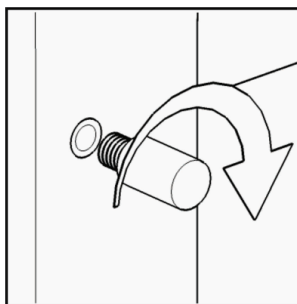

Figure 6
Insert Adjustable Pins into the side frames at the desired level and place Shelf (H) into position. (see Figure 6)